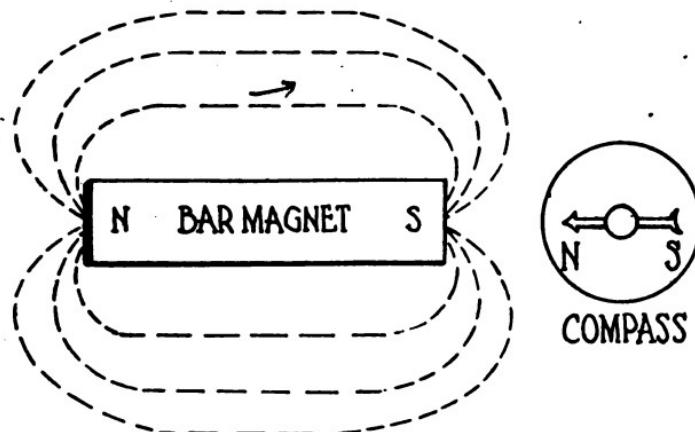

Fig. 3—Bar Magnet Attracts Compass Needle
In Fig. 3 this power that the magnet has to *act through space* is illustrated, for the compass needle that would tend to turn toward the north of the earth is attracted by the south pole of the bar magnet which is marked "S," and is held in this position. Here we note a law of magnetism, that unlike or different poles attract each other; and if the bar magnet had been turned the other way we should find that it would attract the other
In Fig. 3 we have represented the bar magnet as having lines of force which proceed from the North (N) pole and travel through space to the South (S) pole, extending in ever-widening circles and becoming weaker or farther apart as they get farther from the magnet. So while only a few of the lines are indicated, there are really some that leave the North pole and after curving out through space come back past the compass and act on its North pole, drawing it toward the "S" end of the bar magnet.